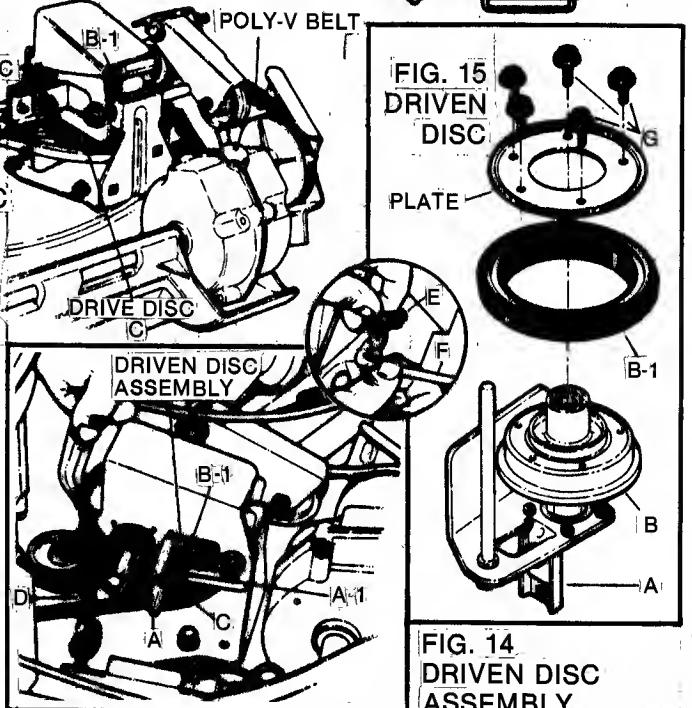

FIG. 14
- Grease on drive disc (C)-causing slippage.
- Broken or disconnected DRIVE SPRING (D) (also refer to FIG. 14).
- Driven disc rubber ring (B-1) worn - not contacting drive disc (C) properly.
- Driven disc (B) out of adjustment
DRIVEN DISC REPLACEMENT: If the driven disc rubber ring (B-1) is found to be badly chunked or worn down to within $1/16$ " of the metal rim of the driven disc hub (B), it must be replaced. Remove the clip (E) at end of speed control rod, and then turn the transfer rod (F) to a upright (vertical) position and detach from the connector (A) (FIG. 14 & 15). Unhook drive spring (D) (use needle nose pliers) and slide the driven disc assembly off hex-shaft.